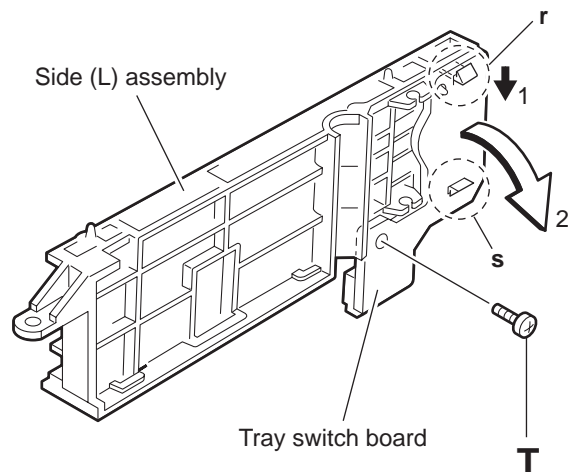

Fig.21
- (4) Remove the screw **T** attaching the tray switch board to the side (L) assembly. (See Fig.21.)
- (5) Release the joint tab **r** of the side (L) assembly in the direction of the arrow 1 and release the joint tab **s** while removing the tray switch board in the direction of the arrow 2. (See Fig.21.)